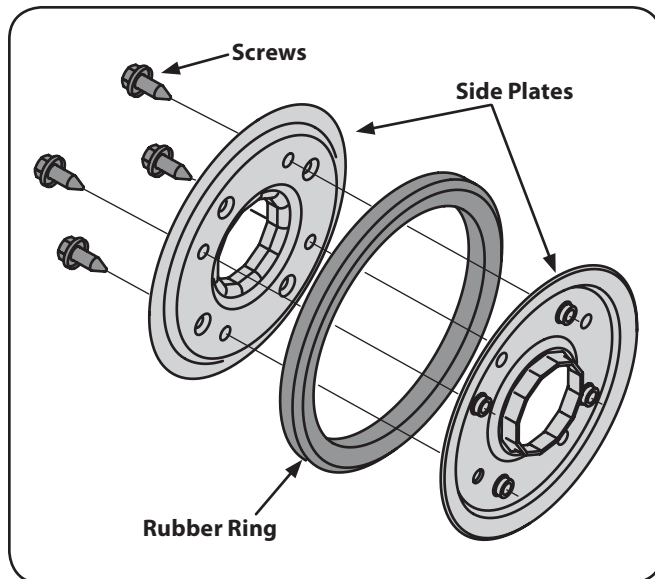

Figure 7-10
7. Remove the four screws from the friction wheel assembly. See Fig. 7-10.